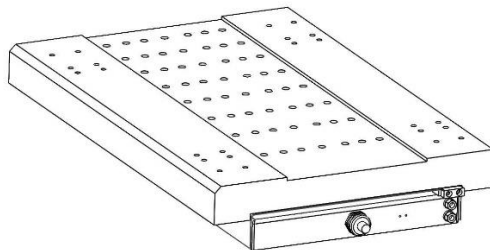

Figure 4.1.3.1.2 Forcer precision water-cooling installation completion view
- Step to assemble (Stator precision water-cooling) : (refer to figure 4.1.3.1.3 and figure 4.1.3.1.4)
- (1). Fasten the connecting base ① at one side onto the working position of the operating platform.
- (2). Insert the cooling pipes ② into the connecting base ① on the platform.
- (3). If the length of the stator ⑤ is longer, then use the joint method to connect the cooling pipes ②.
- (4). After all cooling pipes ② are installed completely, use the connecting base ⑥ at the other side for adjustment and fastening with the cooling pipes.
- (5). Place the stator ⑤ at the corresponding position on the cooling pipes ②.
- (6). Fasten all stators ⑤. For the fastening method of multiple sets of stators, please refer to the stator installation described in section 4.1.1.2.